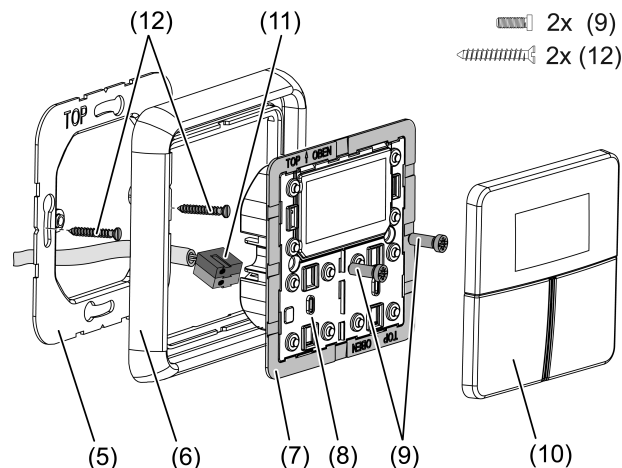

Figure 2: Mounting the controller module
- With the adapter frame (7) in the correct orientation, snap it from the front onto the module (8) (Figure 2). Note the **TOP** marking.